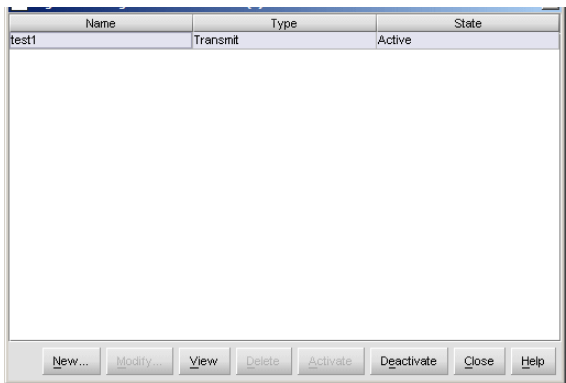

Figure 45 Configure Threshold Alerts dialog box
- 1. Select **Configure > Threshold Alerts**. The Configure Threshold Alerts dialog box appears, as shown in Figure 45.